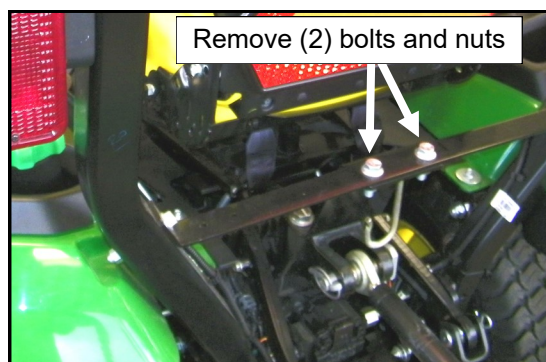

Fig. 1.1d (view from rear of tractor)
- (2) Hex head bolts and nuts found on lower bent flange found behind the seat. See Fig. 1.1d. Save for reuse.